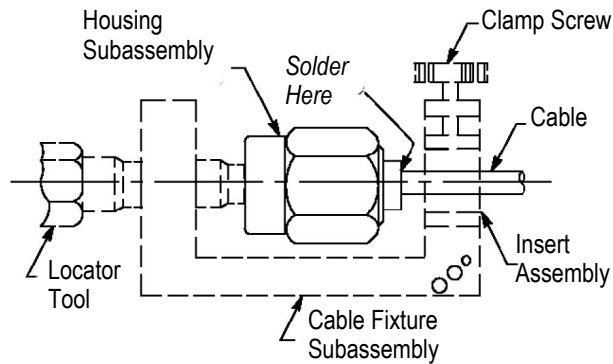

Figure 4
9. Place the assembly in the cable fixture subassembly as shown in Figure 4. Clamp the cable fixture subassembly vertically in the vise. Tighten the clamp screw to secure the cable. Tighten the locator tool to seat the housing subassembly firmly against the locator tool.
10. Using solder made of 60% tin and 40% lead, join the housing subassembly to the cable at the location shown in Figure 4.